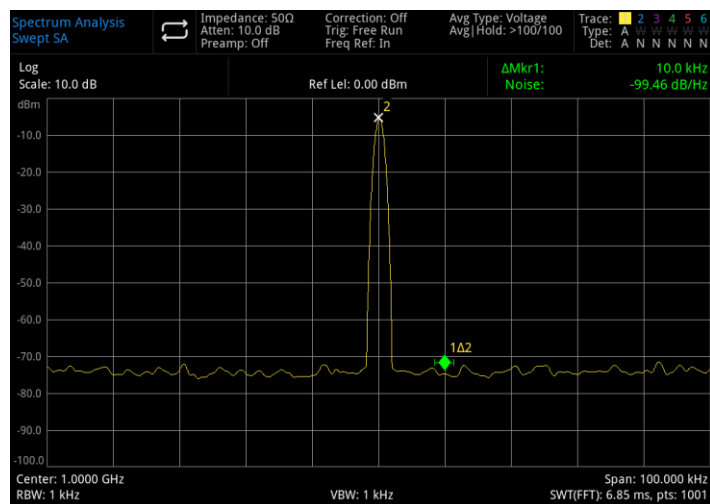

Figure 3-20 Phase Noise
- 7 Open **marker function > mark noise**, as shown in Figure 3-20: